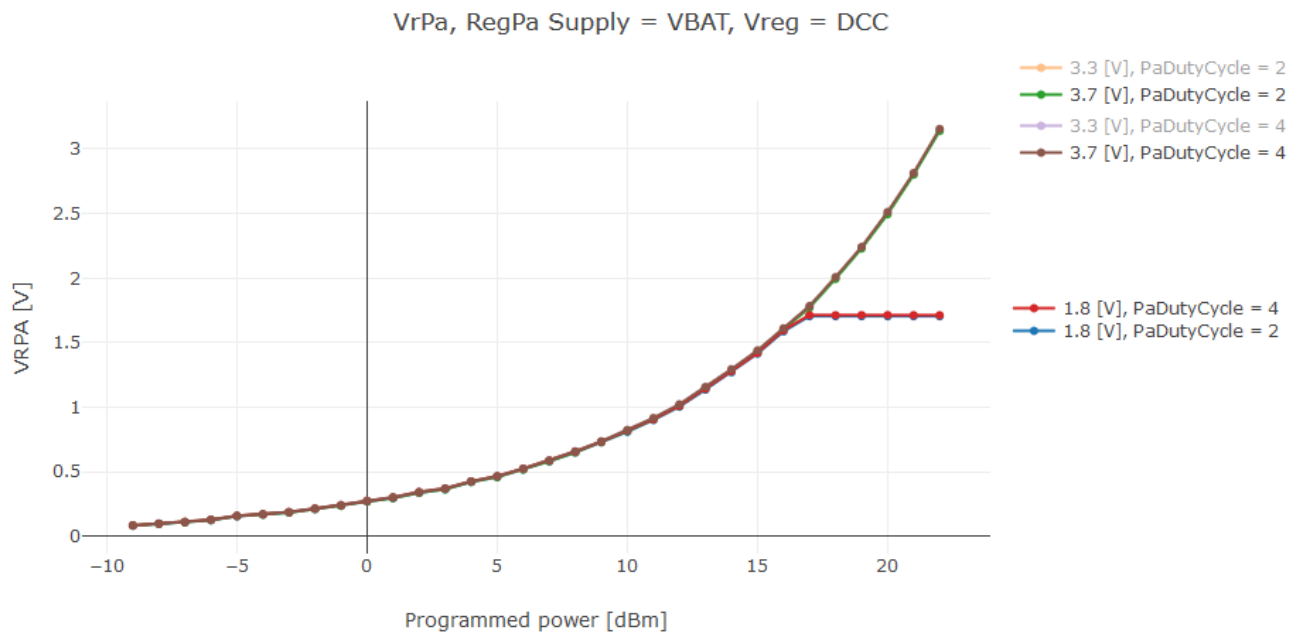

Figure 9-4: High Power PA VR_PA Voltage vs. TxPower
The VR_PA variation over the programmed power *TxPower* for different supply voltages and duty cycle (*PaDutyCycle*) conditions is depicted in Figure 9-4: High Power PA VR_PA Voltage vs. TxPower below.
- For the +22dBm power setting, a VR_PA of ~3.1V is required (refer to Figure 9-4). Therefore, given the 200mV drop-out of the PA regulator, the +22dBm output power can only be obtained from a 3.3V to 3.7V supply voltage range.